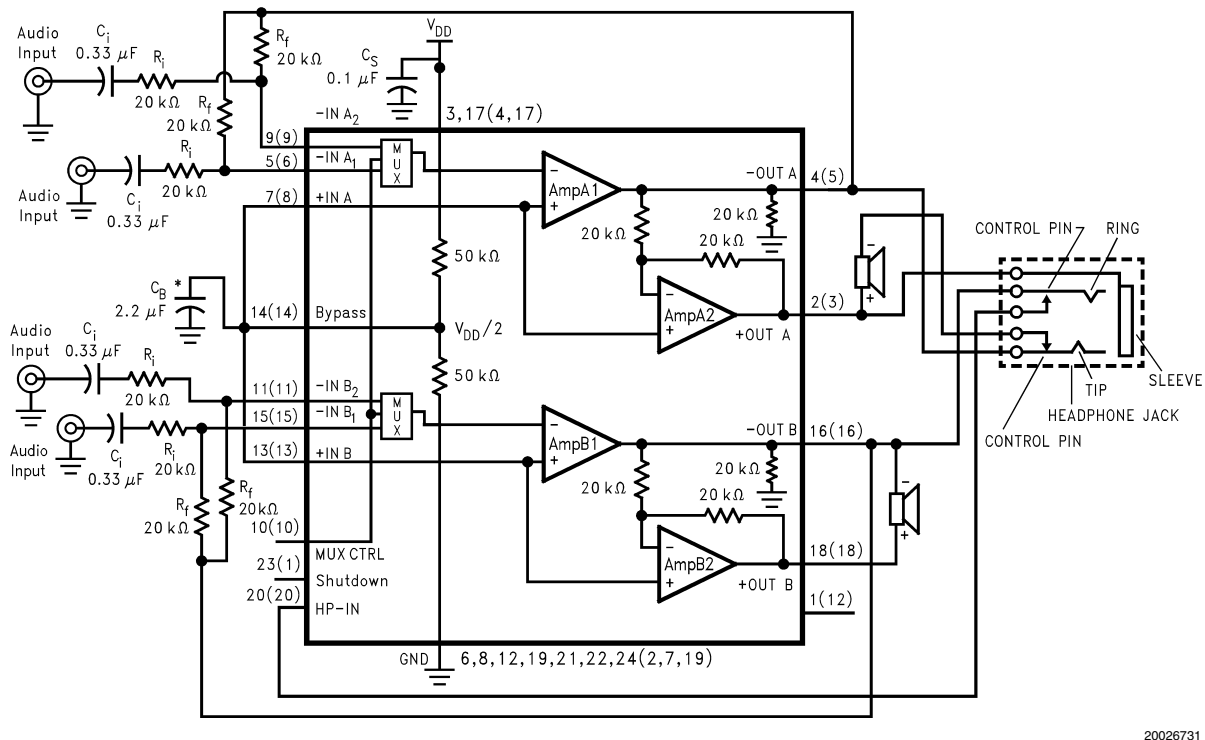

FIGURE 4. Typical Audio Amplifier Application Circuit
The LM4868's noise-free operation plus coupling-capacitorless headphone operation and functional compatibility with the LM4873 and the LM4863 simplifies upgrading systems using these parts. Upgrading older designs that use either the LM4863 or the LM4873 is easy. Simply remove and short the coupling capacitors located between the LM4873's or LM4863's Amp1A and Amp1B outputs and the headphone connections. Also remove the 1kΩ resistor between each headphone connection and ground. Finally, remove any resistors connected to the HP-IN pin (typically two 100kΩ resistors). Connect the HP-IN pin directly to the headphone jack control pin as shown in Figure 4.
The LM4868's unique headphone sense circuit requires a dual switch headphone jack. Replace the four-terminal headphone jack used with the LM4863 and LM4873 with the five-terminal headphone jack, such as the Switchcraft 35RAPC4BH3, shown in Figure 4. Connect the +OUT A (Amp2A) pin to the five-terminal headphone jack's sleeve pin.
As shown in *Figure 4*, the LM4868 consists of two pairs of operational amplifiers, forming a two-channel (channel A and channel B) stereo amplifier. (Though the following discusses channel A, it applies equally to channel B.) External resistors R_f and R_i set the closed-loop gain of Amp1A, whereas two internal 20kΩ resistors set Amp2A's gain at -1. The LM4868 drives a load, such as a speaker, connected between the two amplifier outputs, -OUTA and +OUTA.
Figure 4 shows that Amp1A's output serves as Amp2A's input. This results in both amplifiers producing signals iden-
The dramatic jump in distortion for loads less than 10 Ω occurs when current limiting circuitry activates. During SE operation, AMP2A (refer to *Figure 4*) drives the headphone sleeve. An on-board circuit monitors this amplifier's output current. The sudden increase in THD+N is caused by the current limit circuitry forcing AMP2A into a high-impedance output mode. When this occurs, the output waveform has discontinuities that produce large amounts of distortion. It has been observed that as the output power is steadily increased, the distortion may jump from 5% to greater than 35%. Indeed, 10% THD+N may not actually be achievable.
Amplifying the lowest audio frequencies requires high value input coupling capacitor (C_i in *Figure 4*). A high value capacitor can be expensive and may compromise space efficiency in portable designs. In many cases, however, the speakers used in portable systems, whether internal or external, have little ability to reproduce signals below 150Hz. Applications using speakers with this limited frequency response reap little improvement by using large input capacitor.
As shown in *Figure 4*, the input resistor (R_i) and the input capacitor, C_i produce a -3dB high pass filter cutoff frequency that is found using Equation (7).
As an example when using a speaker with a low frequency limit of 150Hz, C_i , using Equation (4) is $0.063\mu\text{F}$. The $1.0\mu\text{F}$ C_i shown in *Figure 4* allows the LM4868 to drive high efficiency, full range speaker whose response extends below 30Hz.